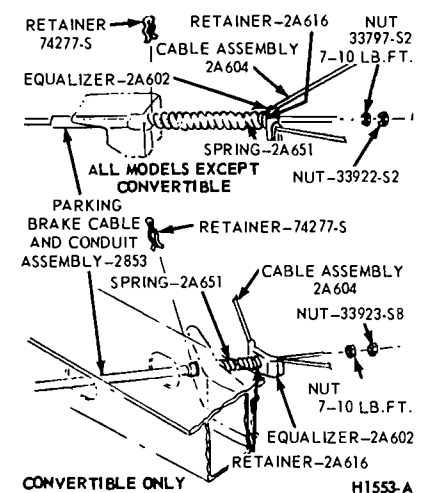

FIG. 5—Parking Brake Linkage Adjustment—Montego, Fairlane and Falcon
3. Raise the vehicle. Loosen the equalizer lock nut (Fig. 5) and turn the nut forward against the cable guide on the equalizer until there is 75-100 pounds tension on the left or right cable or there is 100 ft-lbs break-away torque when turning the rear